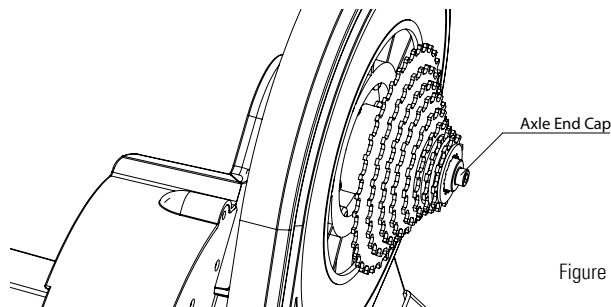

Figure 9
2. With the cassette removed, you will now need to remove the axle end cap on the drive side by rotating it counter clockwise. Figure 9